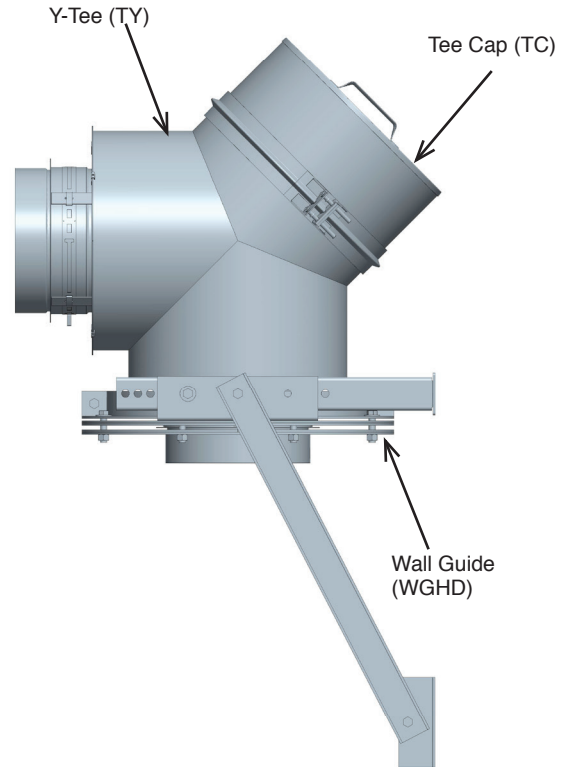

Figure 95 - Installation of a Y-Tee (TY)
1. The Tee Y (TY) is very useful where the grease duct must be accessed for clean-out and inspection purposes. **See Figure 95.**